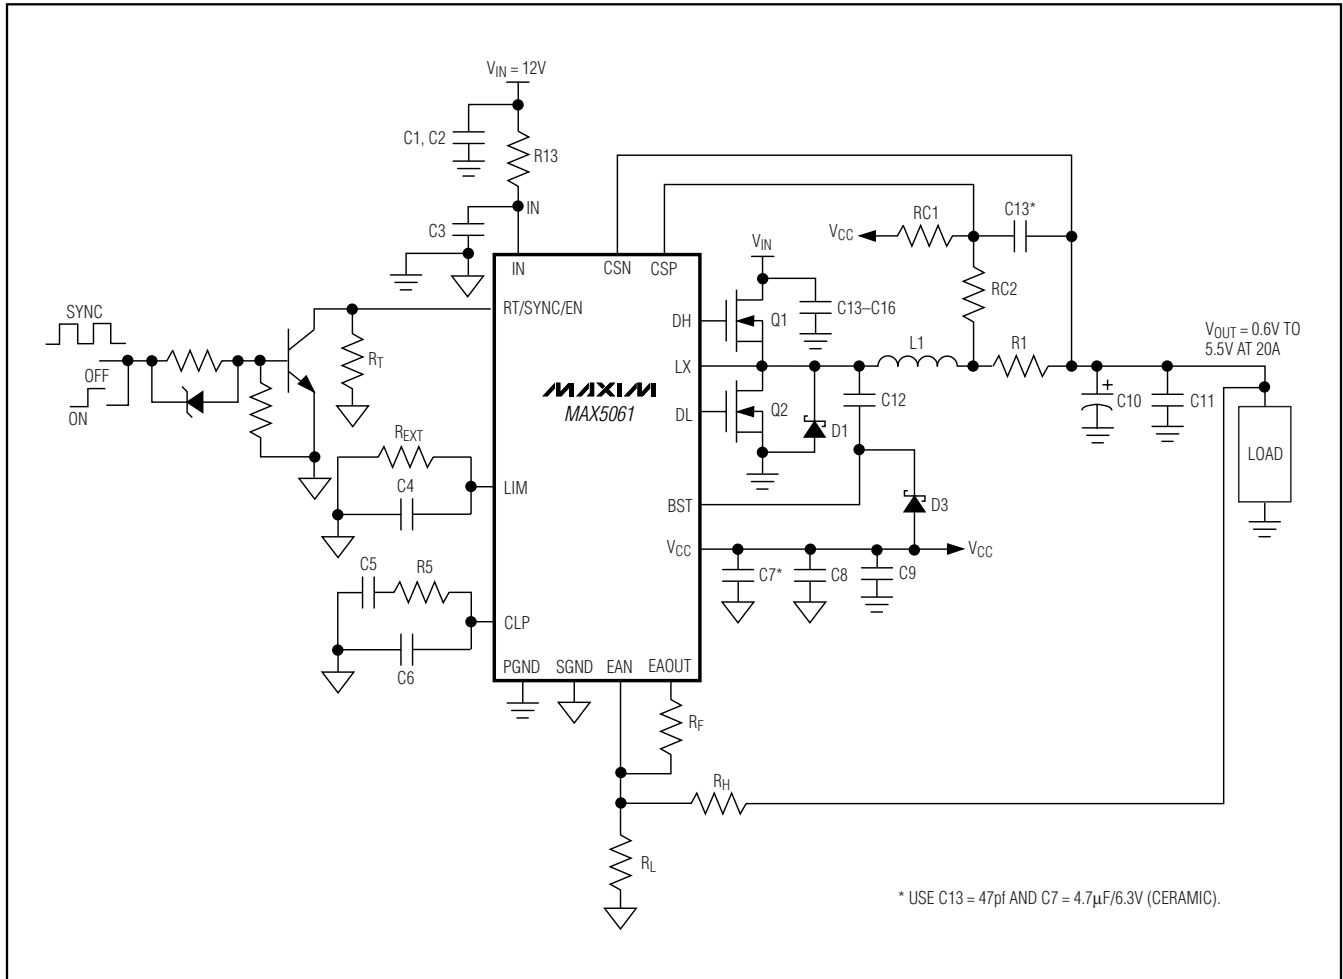

Figure 2. Typical Application Circuit,  $V_{IN} = +12V$  (MAX5061)
The error amplifier output (EAOUT), which is compared against the output of the current amplifier (CA), may not reduce down to zero due to the saturation voltage of its output stage. This requires the converter to be loaded with a minimum load to prevent it from slipping out of regulation. The minimum load requirement can be eliminated by adding some DC bias voltage between CSP and CSN. See the *Typical Application Circuit* (Figure 2). Use RC1 and RC2 to generate approximately 3mV DC bias at CSP with respect to CSN. Use the following equation to calculate the values of RC1 and RC2.